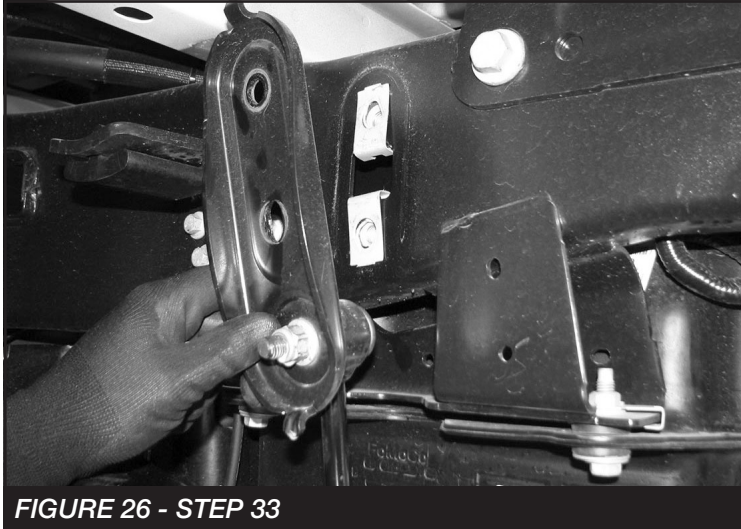

FIGURE 26 - STEP 33
33. Remove the sway bar end link and factory bracket from the frame. Save hardware. Remove end link from the bracket and discard. The bracket will be re-used. **SEE FIGURE 26**